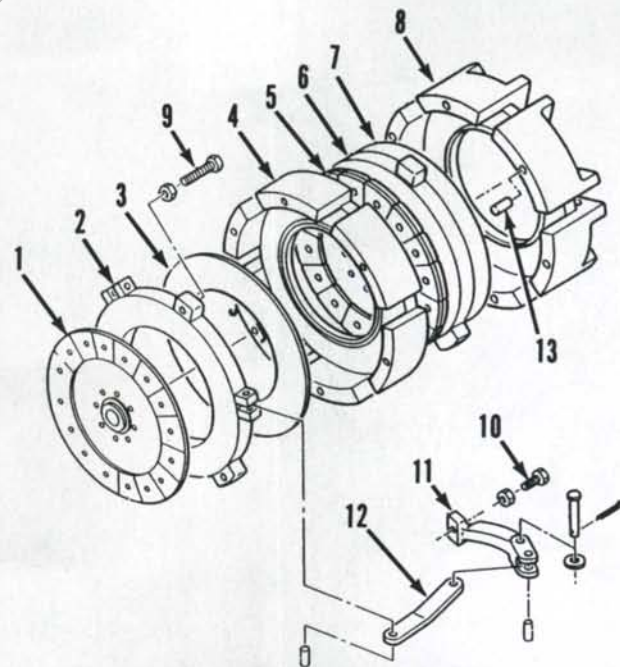

Fig. 138—Exploded view of dual plate clutch assembly available on Models 1320 and 1520.
To disassemble clutch used on Models 1320 and 1520, use a press or other suitable means to compress clutch diaphragm springs and relieve tension on release lever links (12—Fig. 138). Then remove pins retaining release levers (11) to outer cover (8) and swing release levers and links out of the way. Release spring tension and separate clutch components.